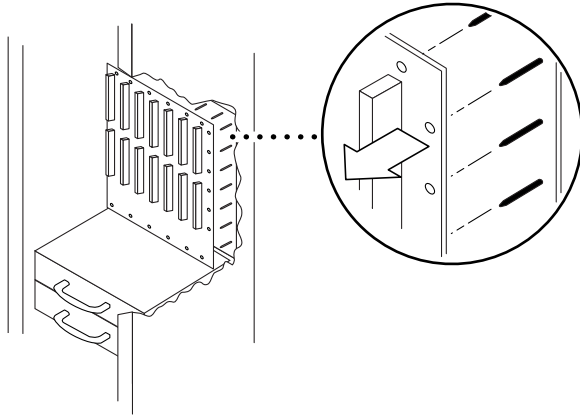

FIGURE 12-7 Moving the System Centerplane Forward Off the Guide Pins—Sun Fire 6800 System
12. Move the centerplane forward off the guide pins (FIGURE 12-7).